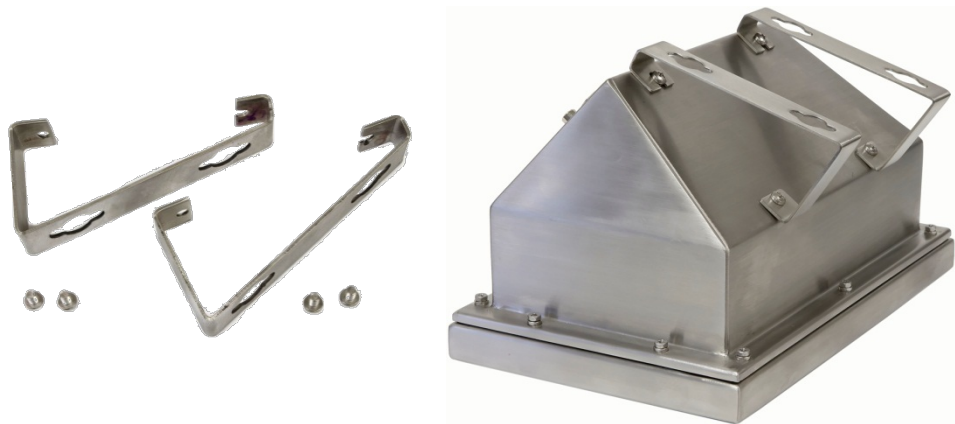

Figure 3-10: Wall-Mounting Brackets (left), Attached to Enclosure (right)
1. Bolt the two brackets to the bottom of the enclosure using the four M5 screws included with the brackets. The brackets should be attached as shown in Figure 3-10.